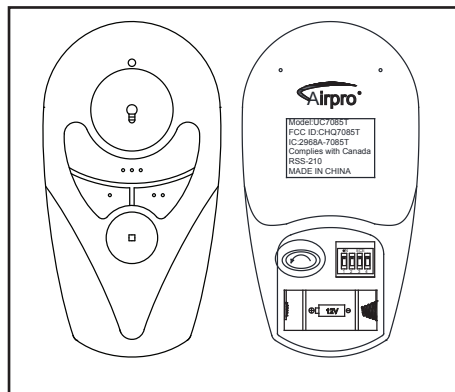

Figure 19
**Remote Control** - Your fan is equipped with a remote control to operate the speed and lights of your new ceiling fan (Figure 19).